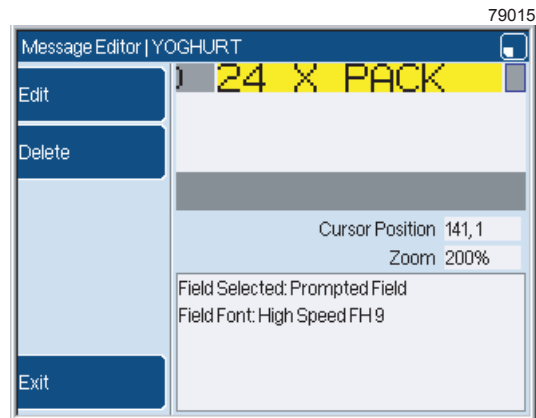

Figure 19. Prompted field selected
- 2 Move the cursor over the prompted field, and then press the [enter] key. The field that you select becomes highlighted, and you can see the edit options (as shown in Figure 19).